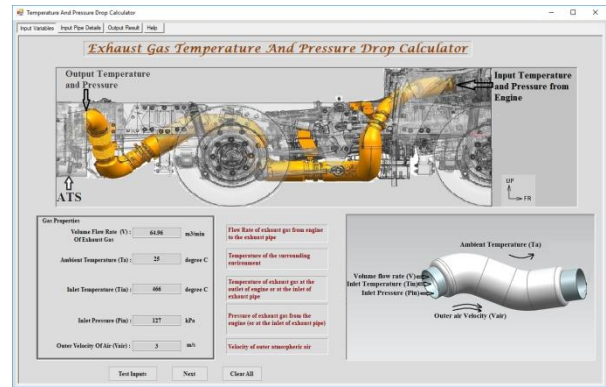

Figure 6. Tool first page
- Next the tool window will appear. When the tool pops up, the first page appears as shown in Fig 6.